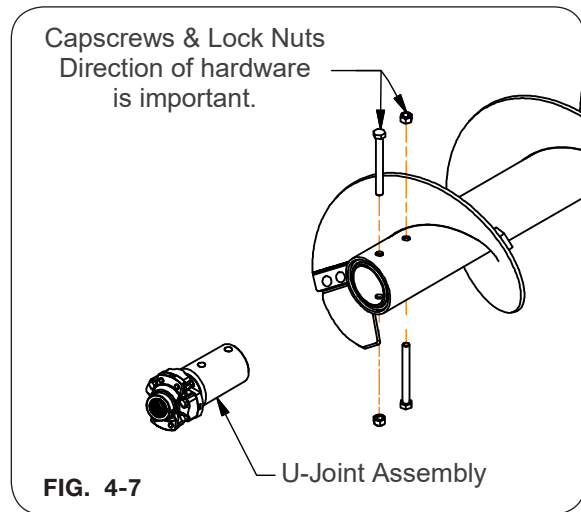

FIG. 4-7
6. Attach the u-joint assembly to the new lower auger flighting by placing 5/8"-11UNC x 6" capscrews (9390-136) and 5/8"-11UNC lock nuts (9801) into the auger from opposite directions as shown in FIG. 4-7.